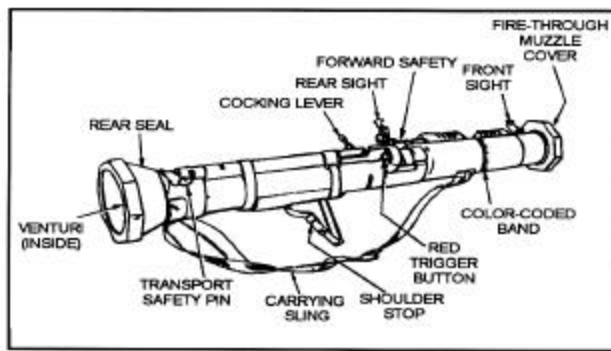

Figure 4-2. Inspecting the M136 launcher.
1. Perform the pre-fire checks. Because the M136 launcher is issued as a round of ammunition rather than as a weapon, the launcher is completely sealed. Therefore, inspection is limited to visual examination of the external components. The overall condition of the launcher should be inspected before it is used (Figure 4-2). The firer should ensure—